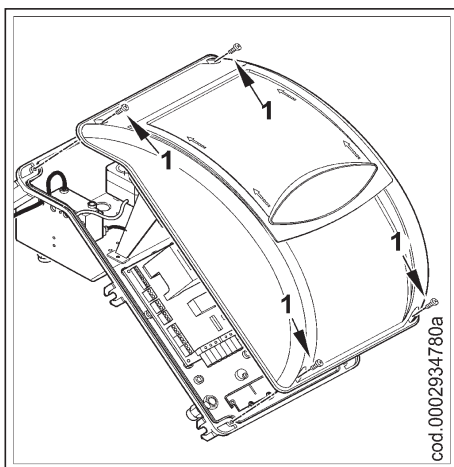

Figure 1
- 1) Remove the lid by unscrewing the 4 screws (1) in figure 1, without removing the transparent door. In this way the burner's electrical panel can be accessed.